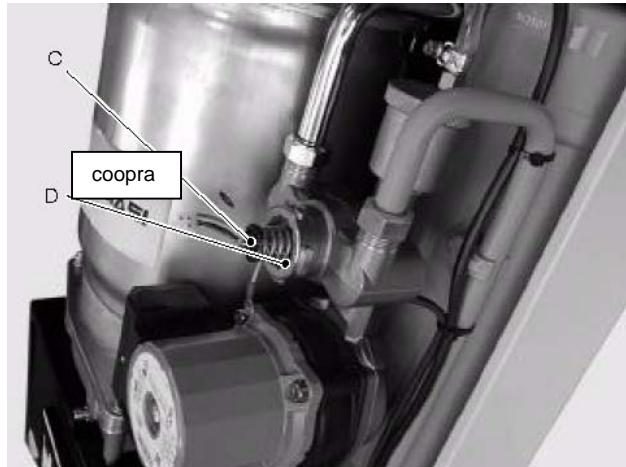

Fig. 25
- 2 Push the stem of the diverter mechanism (Fig. 25) checking that there are no mechanical impediments.
- 3 Unscrew the diverter mechanism D (Fig. 25) by means of the tool provided with the spare part and replace.